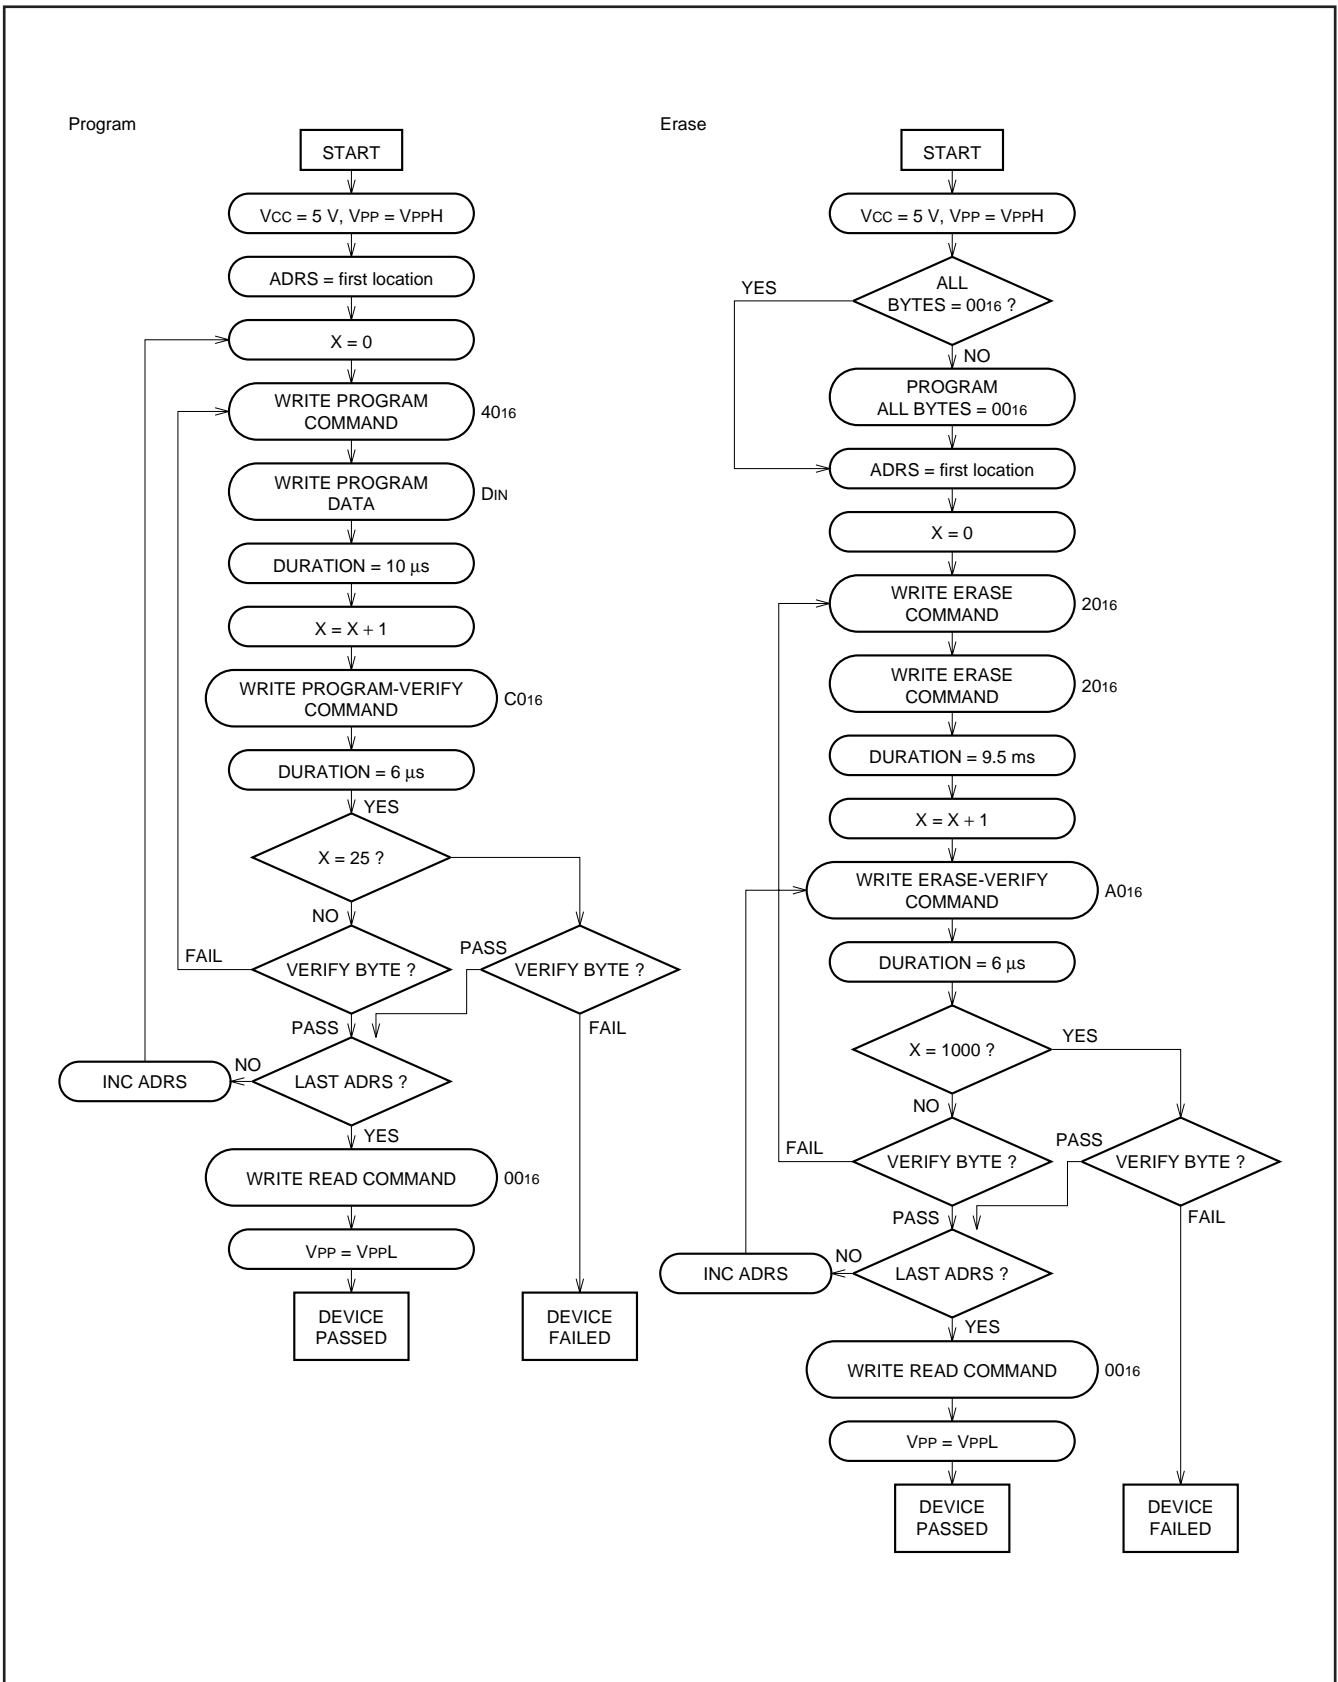

Fig. 12 Programming/Erasing algorithm flow chart
**Note:** A programming operation is not completed by executing the program command once. Always be sure to execute a program verify command after executing the program command. When the failure is found in this verification, the user must repeatedly execute the program command until the pass. Refer to Figure 12 for the programming flowchart.
**Note :** A programming operation is not completed by executing the program command once. Always be sure to execute a program verify command after executing the program command. In the case of failure in the verification, the user must repeatedly execute the program command until the pass in the verification. Refer to Figure 12 for the programming flowchart.